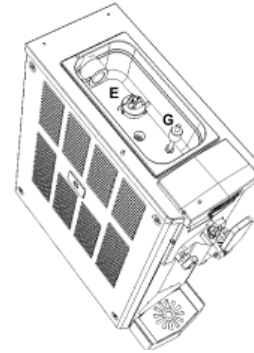

Fig. 54
- Remove all components inside the top tank as shown in Fig. 54 :